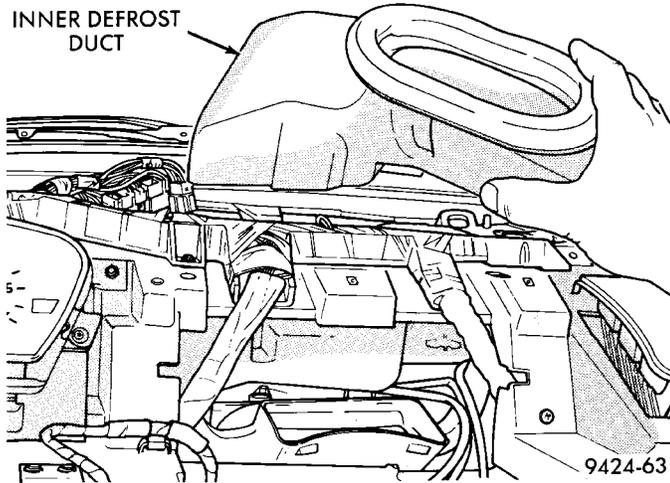

Fig. 41 Instrument Panel Inner Defrost Duct
- (5) Remove inner defrost duct (Fig. 41).
- (6) Disconnect cable at heater unit.
- (7) Disconnect cable at control panel.
- (8) Remove cable from vehicle.
- (7) Disconnect cable at control panel. Remove control from instrument panel.